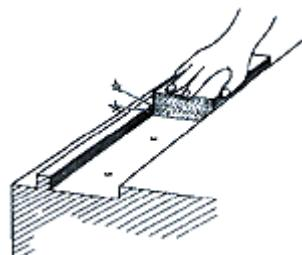

Fig. 2 Checking the Mounting Surface
- Prior to assembly, always remove all burrs, dents, dust, and the like from the mounting surface of the machine on which the LM Guide is to be installed (Fig. 2).